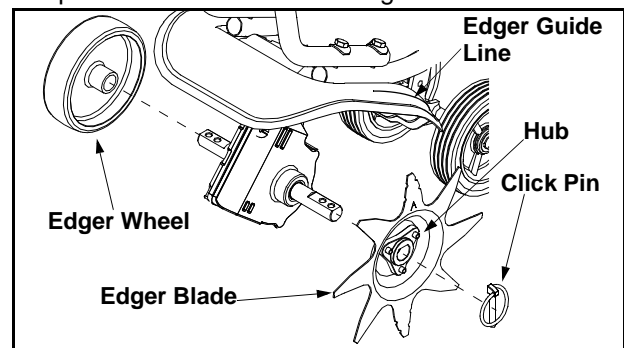

Figure 7
- Push the On/Off switch to Off (O) position to stop engine and tines and disconnect spark plug to avoid accidental starting.
- Slide the edger wheel, with the hub facing inward, onto the right side of the tine shaft and secure with the click pin in the inside hole. See Figure 7.
- Slide the edger blade with the hub facing out onto the left side of tine shaft and secure with the click pin in the inside hole. See Figure 7.
- Guide edger blade along a flowerbed, sidewalk, or driveway with the edger wheel along the outside edge. Use the edger guide line to line up edger blade. See Figure 7.